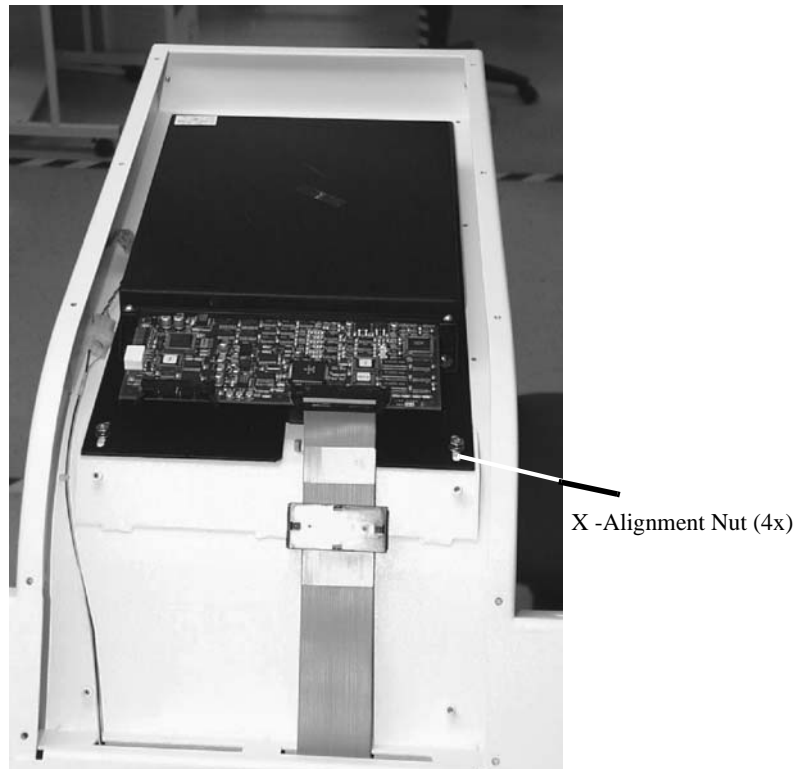

Figure 3-26. Array Assembly - Top View, Partial
1. At the Array assembly, loosen the four X-alignment nuts located at the corners of the assembly (see Figure 3-26 above).